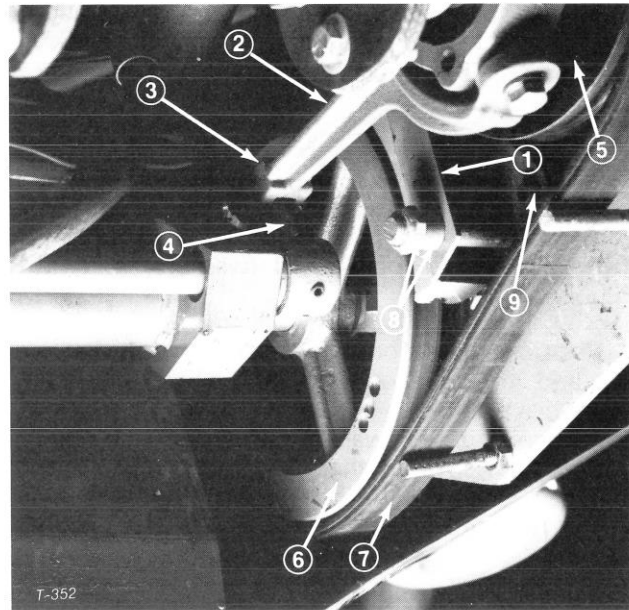

Figure 64
3. Move PTO lever to the ON position and remove PTO brake (Fig. 64).
4. Move PTO lever to the OFF position to release tension on the belt. Remove cotter pin and clevis pin from PTO fork and remove fork from PTO arm (Fig. 64). Roll old belt off engine pulley and PTO pulley (Fig. 64).
and engine pulley, making sure belt is to the inside of the three belt guides. Install PTO fork onto PTO arm and secure with clevis pin and cotter pin (Fig. 64).
2. Move PTO lever to ON position. Loosen adjusting locknut (Fig. 64) so brake is free to move. Move PTO lever to OFF and position the brake in grooves of pulley.
3. Tighten locknut to hold brake in position (Fig. 64).
pin, and slide spacer, brake and spring off the pins (Fig. 64).
2. Move PTO lever to the ON position to move pulley away from brake. Remove locknut holding brake on mounting pin, and slide spacer, brake and spring off the pins (Fig. 64).